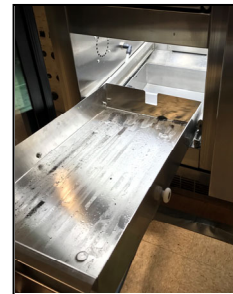

Fig. 1 Access the water reservoir; the sensor will be on the left side.
1. Remove the lower grow drawer to access the reservoir (Fig.1)